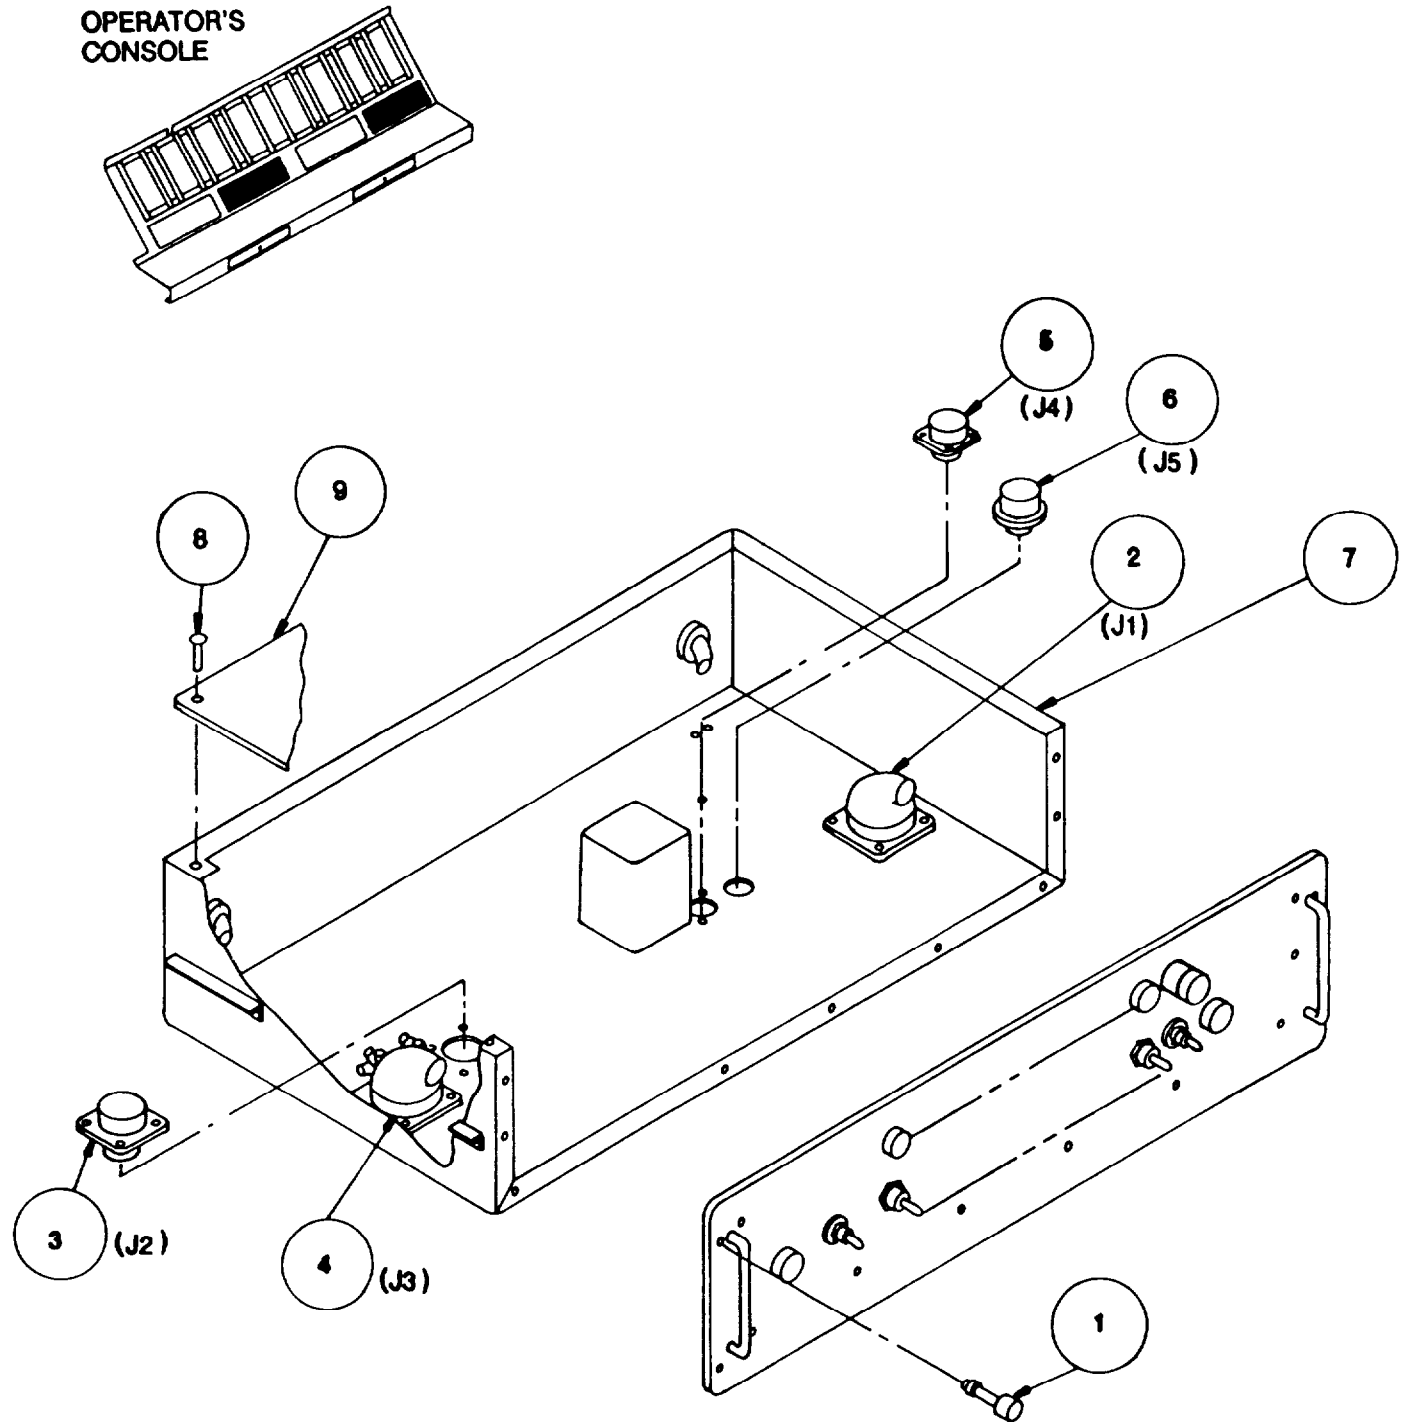

Figure 2. Radio-Audio Control Panel (C-10417/TS)
2-4 MODIFICATION OF RADIO AUDIO CONTROL PANEL C-10417/TS, Part Number SC-B-881153. (see Figures 2 and 3)
a. Removal (Figure 2)
1. Turn the four (1) captive screws on the front of the Radio-Audio Control Panel counterclockwise to release it from the Flight Status or Supervisor console. (see Figure 2)
2. Disconnect cable assemblies from connectors J1(2), J2(3), J3(4), J4(5) and J5(6) on the Radio-Audio Control Panel (7).
3. Remove the Radio-Audio Control Panel (7) to clean flat location.
4. Unscrew the four cross-tip screws (8) from the top cover (9) and lift the cover out of the way.
1. Reconnect the cable assemblies to J1(2), J2(3), J3(4), J4(5), and J5(6). (see Figure 2)
2. Reinstall Radio-Audio Control Panel (7) back into the Flight Status or Supervisor console.
3. Tighten the four captive screws (1) clockwise on the Radio-Audio Control Panel to lock in place.